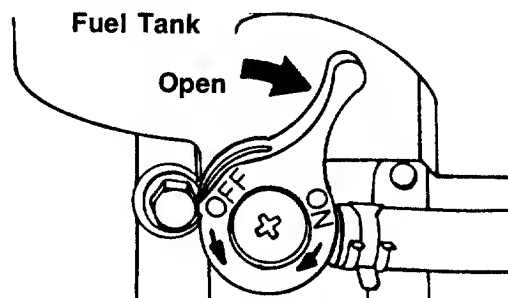

FIGURE 17.
2. Open fuel shut-off valve. See figure 17.